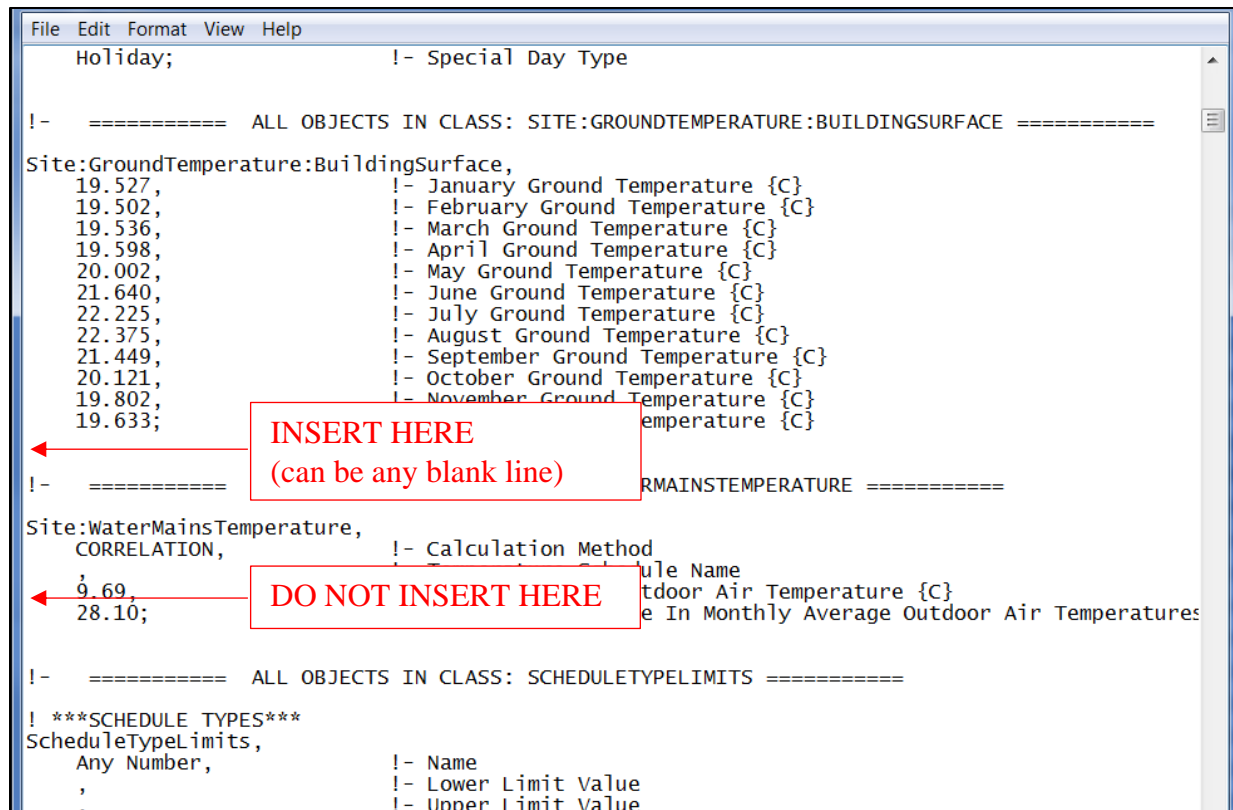

Figure 25. Where to insert the contents of the partial .idf file in EnergyPlus project file
- b. Copy and paste the entire contents of the partial .idf created by this feature into the EnergyPlus simulation file. It does not matter where, however do not break-up any existing EnergyPlus objects by pasting the text from the partial .idf file below an input that ends in a semicolon (Figure 25). If you would like similar objects to be grouped together, you can open up the updated EnergyPlus simulation file in the EnergyPlus IDF Editor program. When you use the “Save as” function, the objects in the EnergyPlus simulation file will re-order the objects and group similar objects together.